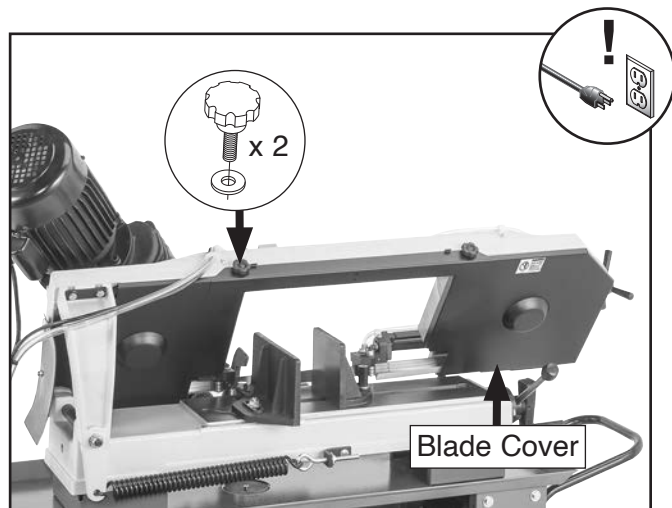

Figure 69. Location of blade cover and fasteners.
3. Remove (2) knobs and flat washers shown in **Figure 69** to remove blade cover.